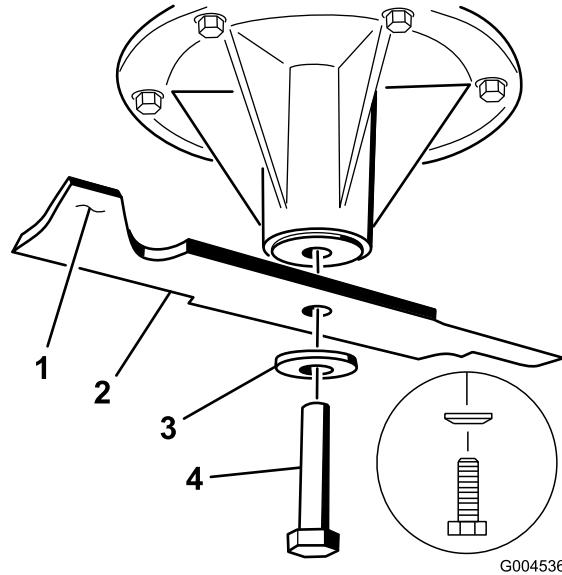
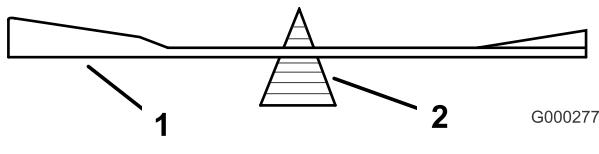

Figure 79
Figure 81
2. Remove the blade bolt, curved washer, and blade from the spindle shaft (Figure 79).
2. Check the balance of the blade by putting it on a blade balancer (Figure 81). If the blade stays in a horizontal position, the blade is balanced and can be used. If the blade is not balanced, file some metal off the end of the sail area only (Figure 79). Repeat this procedure until the blade is balanced.